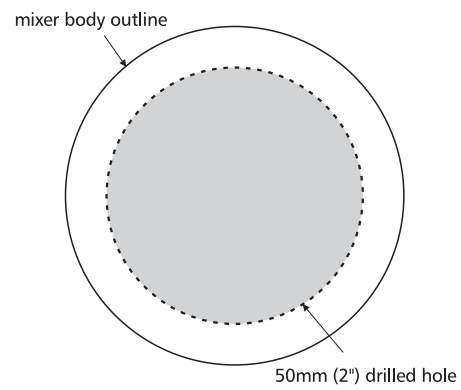

Figure 4
2. Drill a 2" (50mm) hole in the central position of the outline on the rim (Figure 4).